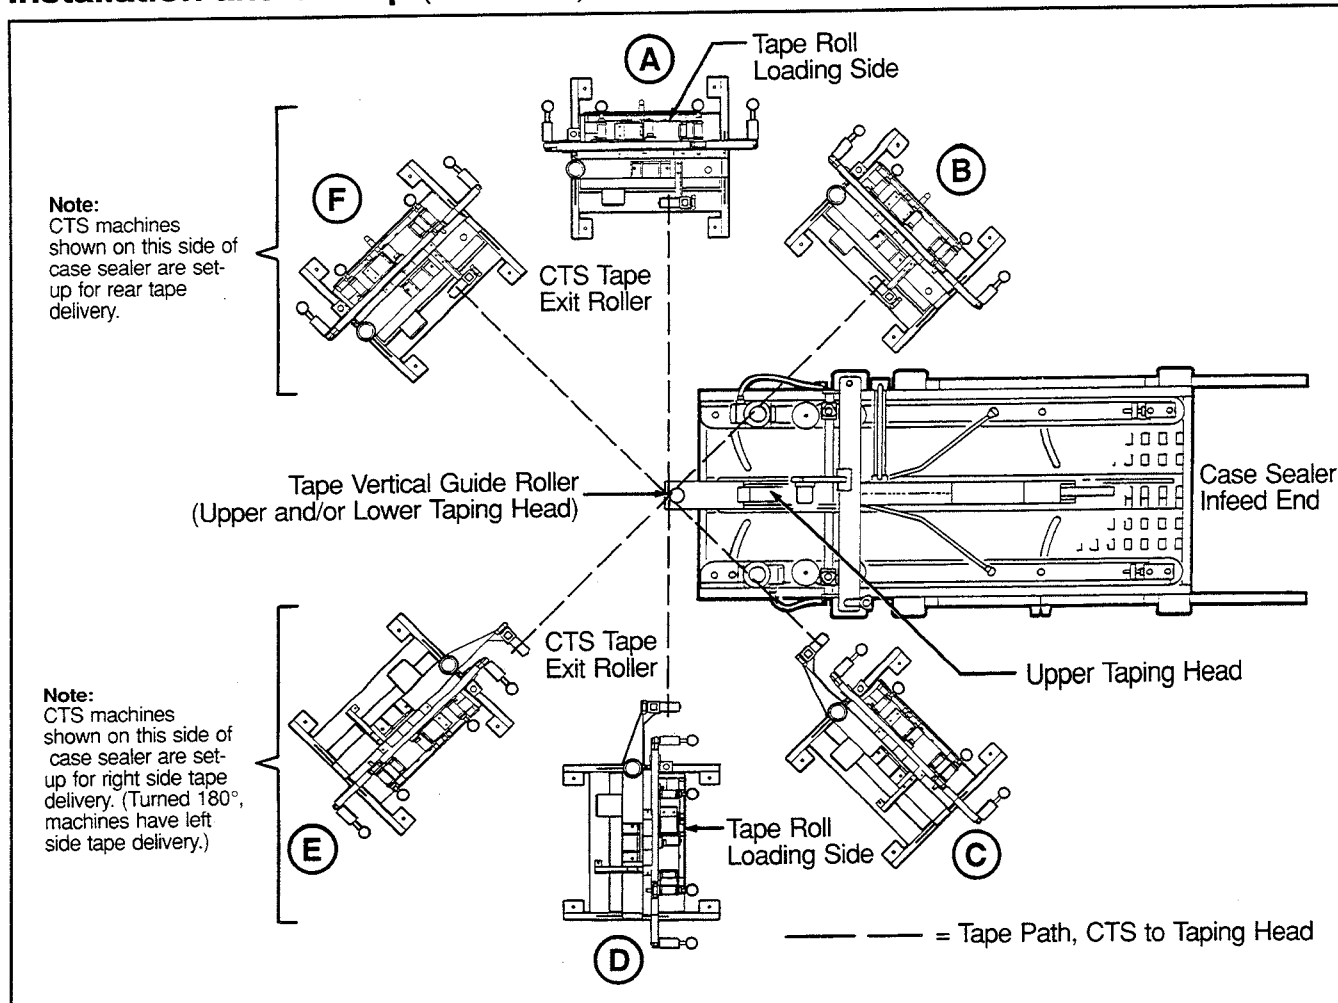

Figure 2-6 – Positioning CTS Machine
Location of CTS is recommended in positions A, B, C and D. Positions E and F are not recommended because tape tracking is more critical in these positions. See Figure 2-6.
1. Determine which is the best location for the CTS by referring to the plan view, Figure 2-6. Position the CTS to provide the shortest, most direct path to the taping head. Servicing access to both the CTS and case sealer should also be a prime consideration when choosing a location for the CTS.